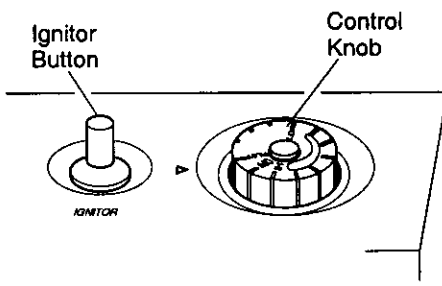

Figure 23 - Control Knob In The OFF Position
4. Wait five (5) minutes to clear out any gas. Then smell for gas, including near the floor. If you smell gas, **STOP!** Follow "B" in the safety information. If you don't smell gas, go to the next step.
5. Turn control knob counterclockwise to the **PILOT** position. Press in control knob for five (5) seconds (see Figure 23).